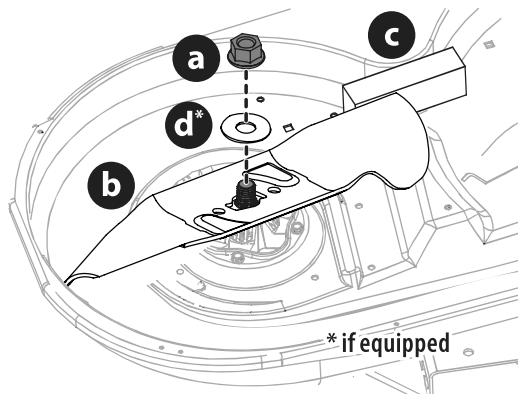

Figure 47
2. Use a 15/16 inch wrench to hold the hex nut on top of the spindle assembly when loosening the hex nut (a) and washer (d)\* securing the blade (b). A block of wood (c) may be placed between the deck housing and the cutting edge of the blade (b) to help in breaking loose the hex nut (a) and washer (d)\* securing the blade (Figure 47).
2. When re-installing blades, be sure of the following (Figure 47 on page 32):
3. Tighten hex nuts (a) to 70-90 ft-lbs (95-122 N-m) (Figure 47 on page 32).